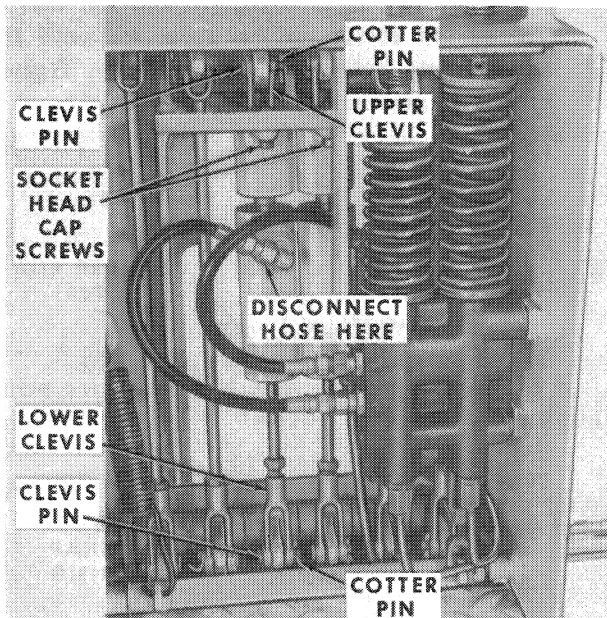

Figure 15
4. Connect the two hoses, Figure 15, to the control cylinder at the sequencing valve assembly.
2. Remove the cotter pin from the upper and lower clevis pins, Figure 15. Then remove the clevis pins.
3. Remove the two socket-head screws, lock washers and nuts, Figure 15, securing the control cylinder to the backhoe control tower.
1. Position the control cylinder in the control tower, Figure 15, and secure the two socket head cap screws, washers and nuts.